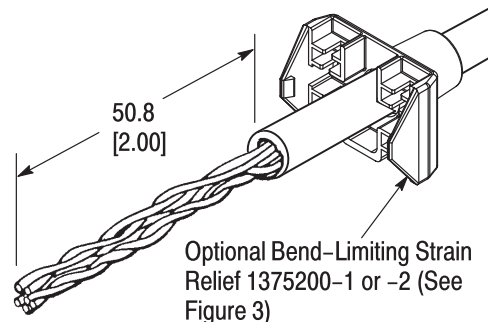

Figure 2
- Strip back only as much cable jacket as necessary to perform termination. See Figure 2.
If using the optional bend-limiting strain relief, slide it over cable jacket as shown in Figure 2.